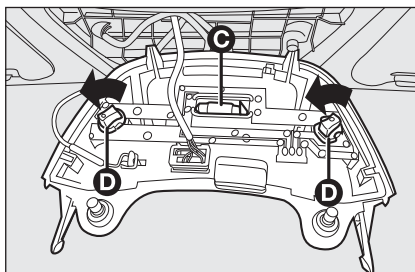

fig. 35
- ☐ replace the central bulb **C**-fig. 35 releasing it from the side contacts making sure that the new bulb is correctly clamped between the contacts; replace side bulbs **D**-fig. 35 turning both bulb holders counter-clockwise then, remove the snap-fitted bulbs.